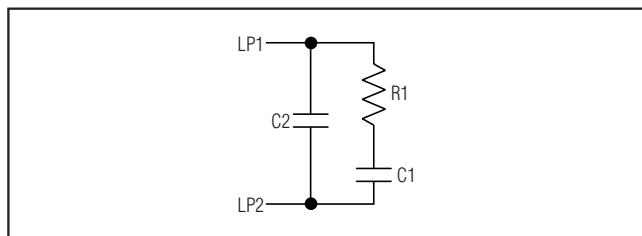

Figure 1. Typical Loop Filter
The MAX9486 features two PLLs: PLL1 and PLL2. The first phased-lock loop, PLL1, contains an integrated VCXO that uses an external crystal to track the input reference signal and attenuate input jitter. Figure 1 shows the external loop filter of the PLL containing resistor R1 and two capacitors, C1 and C2. This loop filter is connected between LP1 and LP2 as shown in the *Typical Operating Circuit*. The loop-filter bandwidth is determined by C1, C2, R1, and R_{SET} where R_{SET} is used to set the value of the charge-pump current. The typical values of C1, C2, R1, and R_{SET} are 22nF, 560pF, 1000kΩ, and 13kΩ, respectively.
where R1 (Ω) is the resistor in the PLL1 loop filter (Figure 1), I_{SET1} (A) is the charge-pump current calculated from the equation in the *Charge-Pump Current*
where C1 (F) and R1 (Ω) are the values of the capacitor and the resistor in the PLL1 loop filter shown in Figure 1; I_{SET1} is calculated as shown in the *Charge-Pump Current Setting* section and N = 2208.